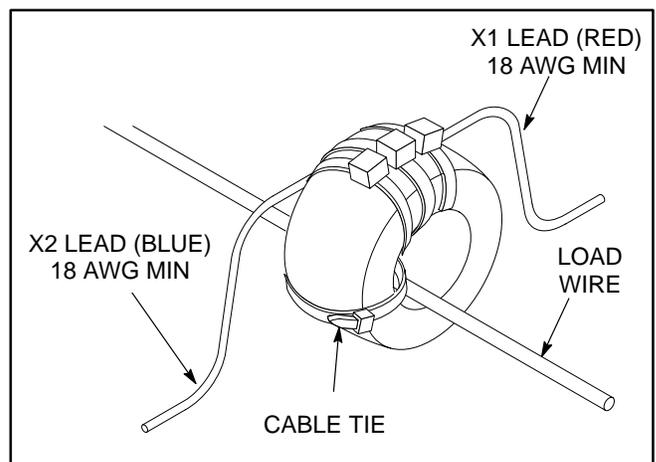

FIGURE 6-3. CURRENT TRANSFORMER INSTALLATION
- When connecting a wire from the distribution box to the load's external relay, run the wire through a current transformer (see Figure 6-3).